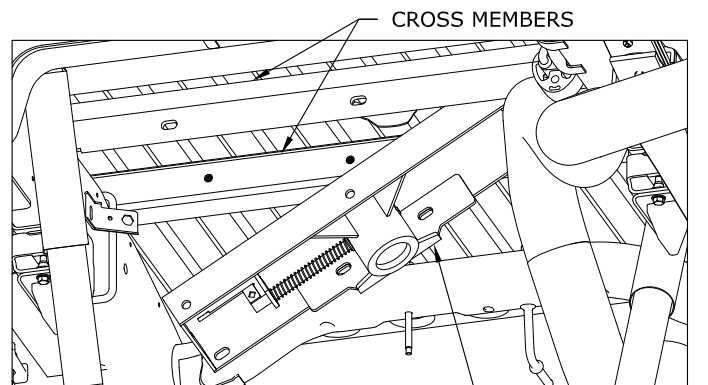
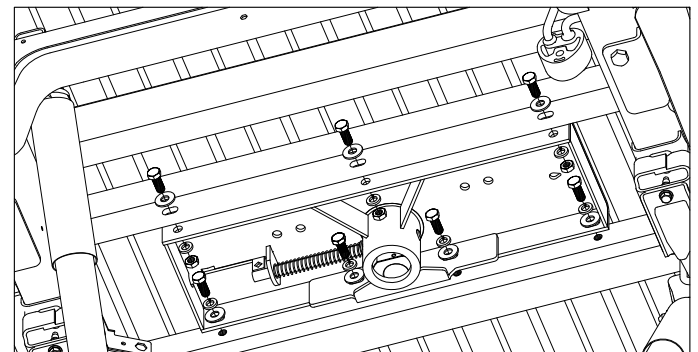

FIGURE B5: View under bed looking at area above axle.
FIGURE B6: View under bed of hardware assembly.
2. **Install Center Section.** Install the center section with the latch pin on the driver's side. Raise the center section over the differential while sliding the center section over the exhaust and guiding the raised 4" circle on top of the center into the 4" hole in the truck bed floor, See figure B5. Move rear cross member forward against the center section. Place a 1/2" flat washer on a 1/2" X 1 1/2" hex cap screw. Insert the cap screw through the rear cross member and center section, securing it with a 1/2" lock washer, and a 1/2" finish nut. Thread a 1/2" X 1 1/2" hex cap screw with a 1/2" lock washer and a 1/2" flat washer into the front cross member from the inside of the center section, See figure B6 (Do not tighten hardware at this time.)